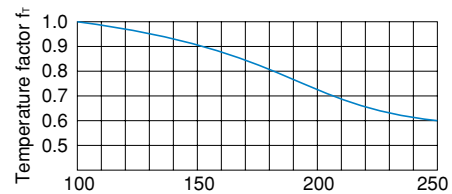

Fig. 1 Temperature Factor (f_r)
- C : Basic dynamic load rating* (N)
- P_c : Dynamic equivalent radial load (N)
- f_r : Temperature factor (see Fig. 1)
*Note: The basic dynamic load rating (C) of the Cross-Roller Ring indicates the radial load with constant direction and magnitude, under which the rated life (L) is 1 million revolutions when a group of identical Cross-Roller Ring units independently operate under the same conditions. The basic dynamic load rating (C) is indicated in the dimensional table.